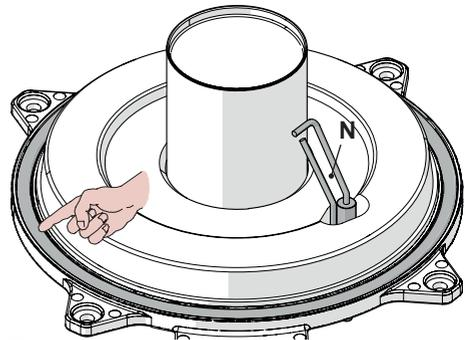

Figure 9.8
- The silicon gasket on the front panel of the combustion chamber Figure 9.8 must be changed if it becomes worn.
- The ignition/detection electrode N in Figure 9.8 also serves as a sensor for correctly draining the condensate. If this electrode comes into contact with the condensate water in the combustion chamber, the boiler goes into safety lock-out. Replace the insulation where wet or worn.